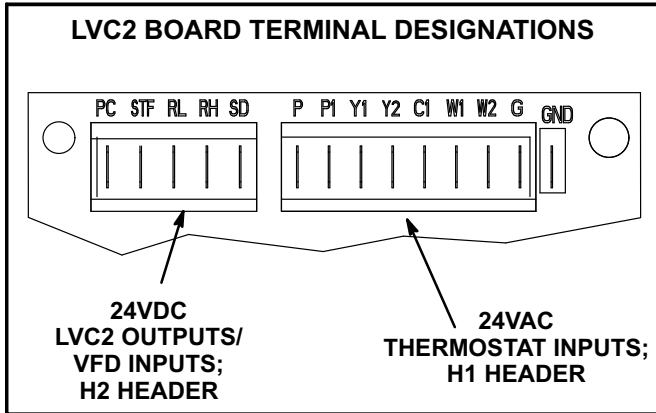

FIGURE 23
- 3- Check for 24VAC signal at the thermostat blower input (G to GND terminal). See figure 23.